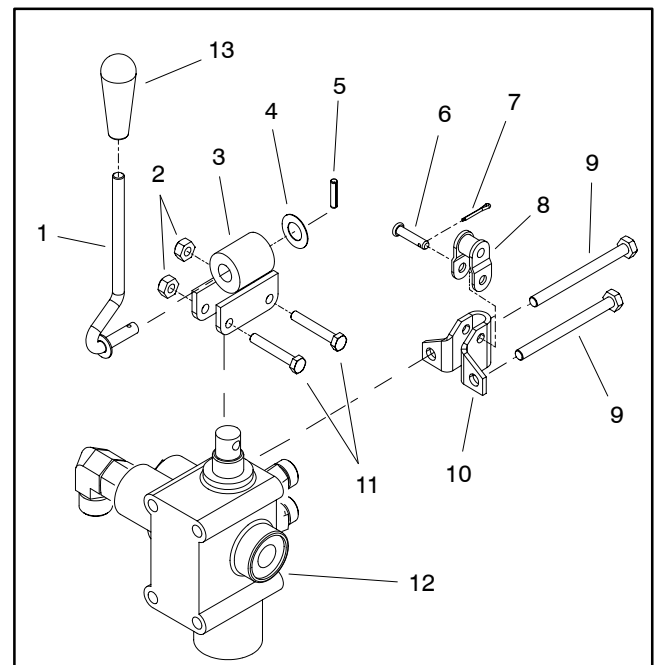

Figure 41
8. Remove cap screw and lock nut that secure lift lever pivot to lift control valve spool (Fig. 41).
A. Remove two (2) cap screws and lock nuts that secure lift control valve and pivot bracket to machine. Position lever assembly away from control valve.
2. Position lift control valve to frame and lift lever assembly to control valve. Secure control valve to machine with removed fasteners. Torque lock nuts (item 6) from 90 to 110 in-lbs (10.2 to 12.4 N-m).
3. Secure lift lever pivot to lift control valve spool with cap screw and lock nut (Fig. 41).